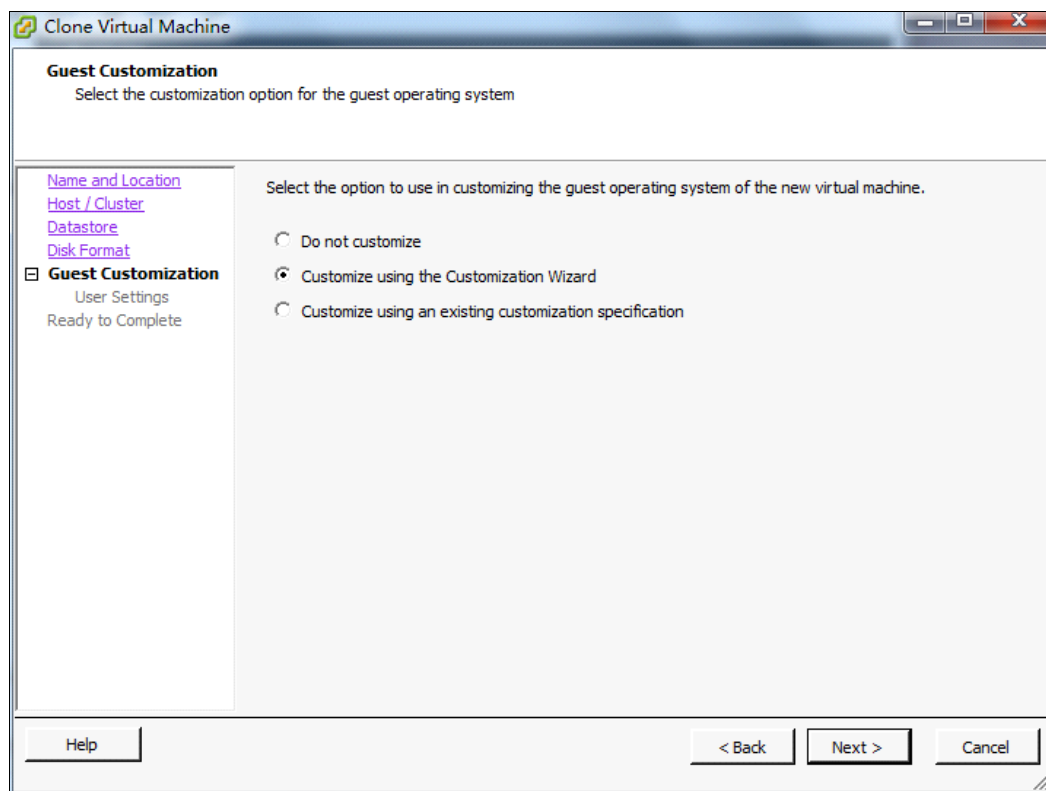
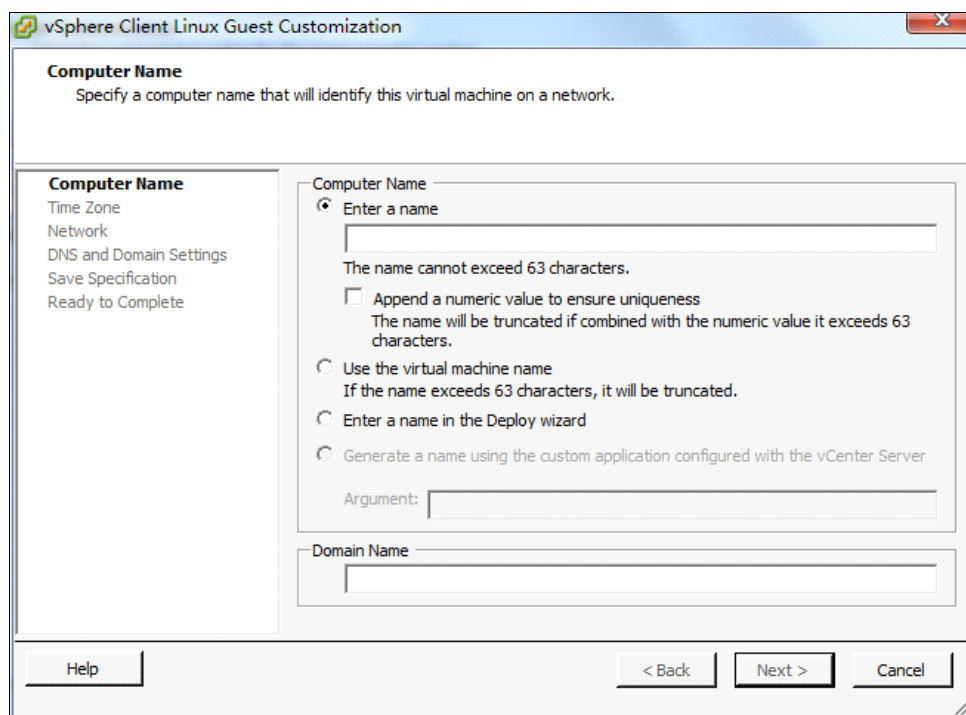

Figure 3-59 Clone Virtual Machine wizard: Guest Customization
Figure 3-60 Clone Virtual Machine wizard - Computer Name
6. Customize any other settings of the virtual machine. In our example, the Guest Customization wizard was run, as shown in Figure 3-59 and Figure 3-60.